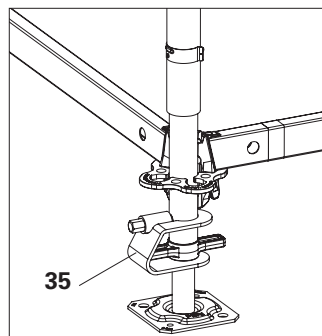

Fig. B3.04a
6. If movement by crane is envisaged, fit Spindle Locking UJS (**35**). (Fig. B3.04a)